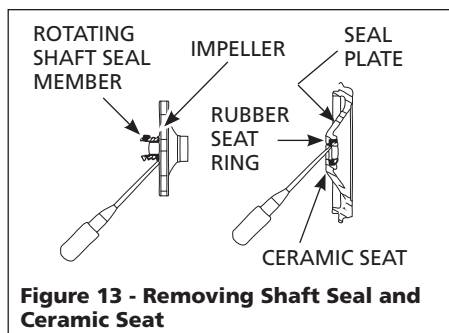

Figure 13 - Removing Shaft Seal and Ceramic Seat
9. Pry the rotating shaft seal member (including stainless collar and rubber seal) from the impeller (Figure 13).
10. Push or pry the ceramic seat free from the seal plate (Figure 13).